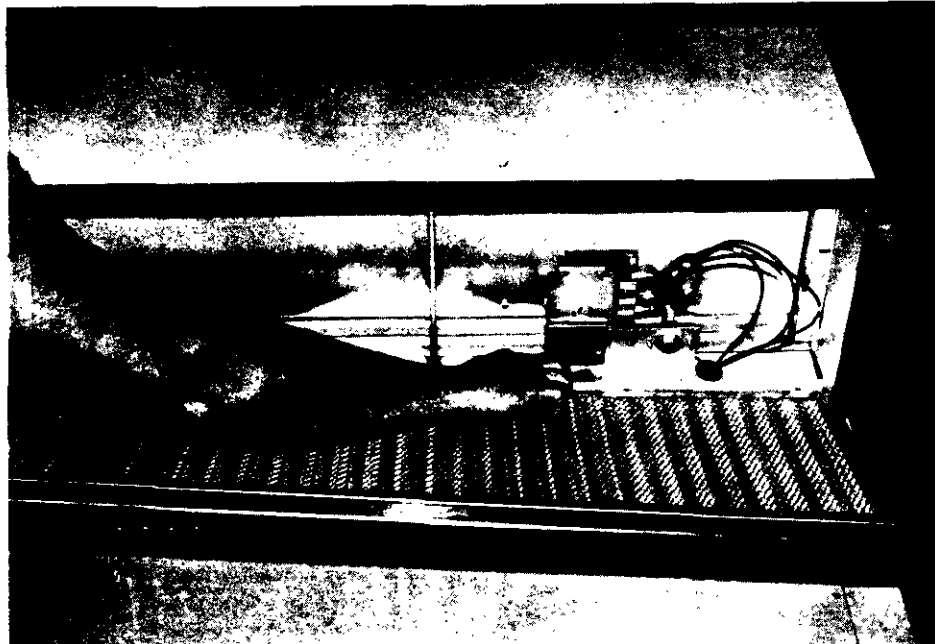

FIGURE 10
- 13.) REMOVE FILTER ACCESS AND CONTROL ACCESS PANELS ON SIDE OF INTAKE HOOD OF ECONOMIZER ASSEMBLY. (SEE FIGURE 9) REMOVE MOISTURE ELIMINATOR UNDER INTAKE HOOD OF ECONOMIZER. (SEE FIGURE 10)
FRESH AIR COOLING DESIRED WHEN UNIT IS IN ECONOMIZER MODE AND IS TYPICALLY DESIRED TO BE 55°F TO 60°F.) LOCATE THE ENTHALPY CONTROL ADJUSTMENT KNOB ON ENTHALPY CONTROL IN ECONOMIZER INTAKE HOOD (FIGURE 10).
- f.) ADJUST THE ENTHALPY CONTROL TO POSITION A,B,C,D TO ACHIEVE THE MAXIMUM COMBINATION OF TEMPERATURE AND HUMIDITY ACCEPTABLE FOR THE INSTALLATION AS PER THE CHART IN MANUFACTURERS ENCLOSED INSTRUCTIONS. (THE SUGGESTED SETTING IS BETWEEN A & B 70°DB @ 55 PERCENT RH. IT IS FURTHER RECOMMENDED TO ALWAYS SET THE CONTROL AT C OR ABOVE. (FIGURE 10)
- g.) SWITCH THE THERMOSTAT FAN CONTROL TO AUTOMATIC AND POSITION THE HEAT COOL SWITCH TO COOL. ADJUST THE THERMOSTAT TEMPERATURE TO ENGAGE THE FIRST STAGE OF COOLING ONLY (Y). THIS WILL CAUSE THE DAMPERS TO MODULATE TO ACHIEVE THE PREVIOUSLY SET MIXED AIR TEMPERATURE PROVIDED OUTSIDE AIR ENTHALPY IS SUFFICIENTLY LOW. IF ENTHALPY IS TOO HIGH FOR ECONOMIZING, LOW ENTHALPY CAN BE SIMULATED BY TEMPORARILY REMOVING AND JUMPING LEADS ON THERMINAL 2 AND 3 OF ENTHALPY CONTROL TOGETHER. THIS WILL ALSO CAUSE THE ECONOMIZER DAMPER TO MODULATE AWAY FROM MINIMUM POSITION (BE SURE TO PROPERLY RECONNECT LEADS AT END OF CHECKOUT PROCEDURE.)